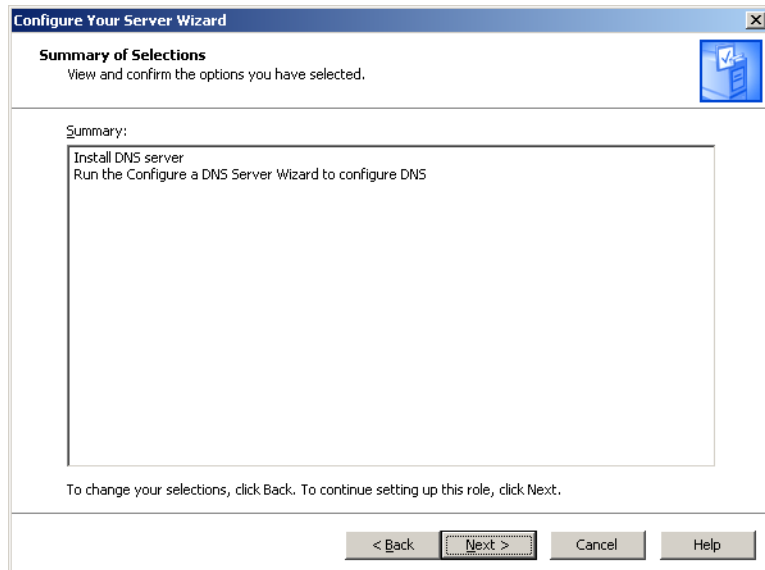

Figure D-45 DNS Selection summary
- Review options selected as shown in figure D-45 and click the **Next** button to proceed.